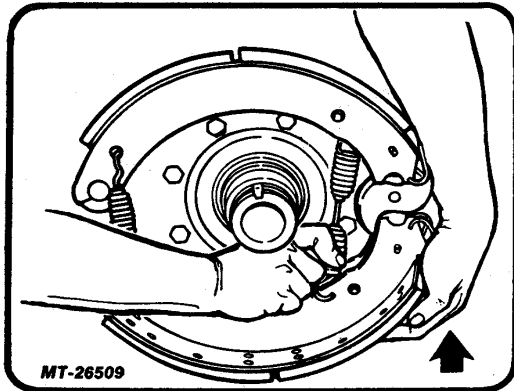

Fig. 14 Remove Shoe Return Spring
- After removing roller assemblies, the shoe return spring will be loose and can be slipped from the links between shoe webs (Fig. 14).